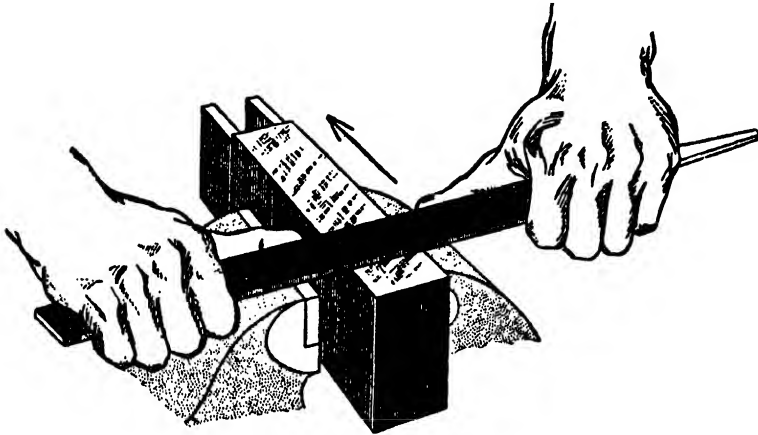

FIG. 62
7. For smoothing long narrow surfaces grasp the file by the ends, place it crosswise on the surface, and draw it back and forth over the work. This is called draw filing. Fig. 62.